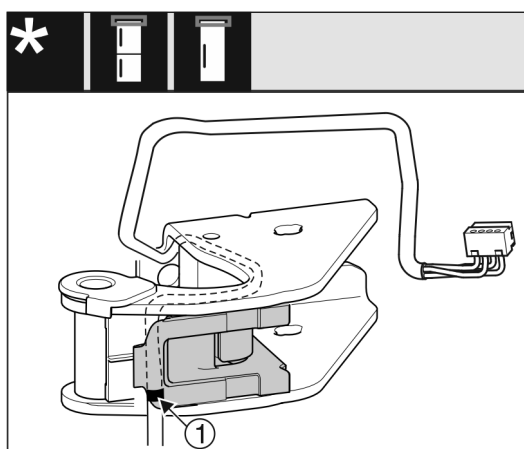

Fig. 28
- The middle marking must be positioned on the edge of the cable holder Fig. 28 (1).